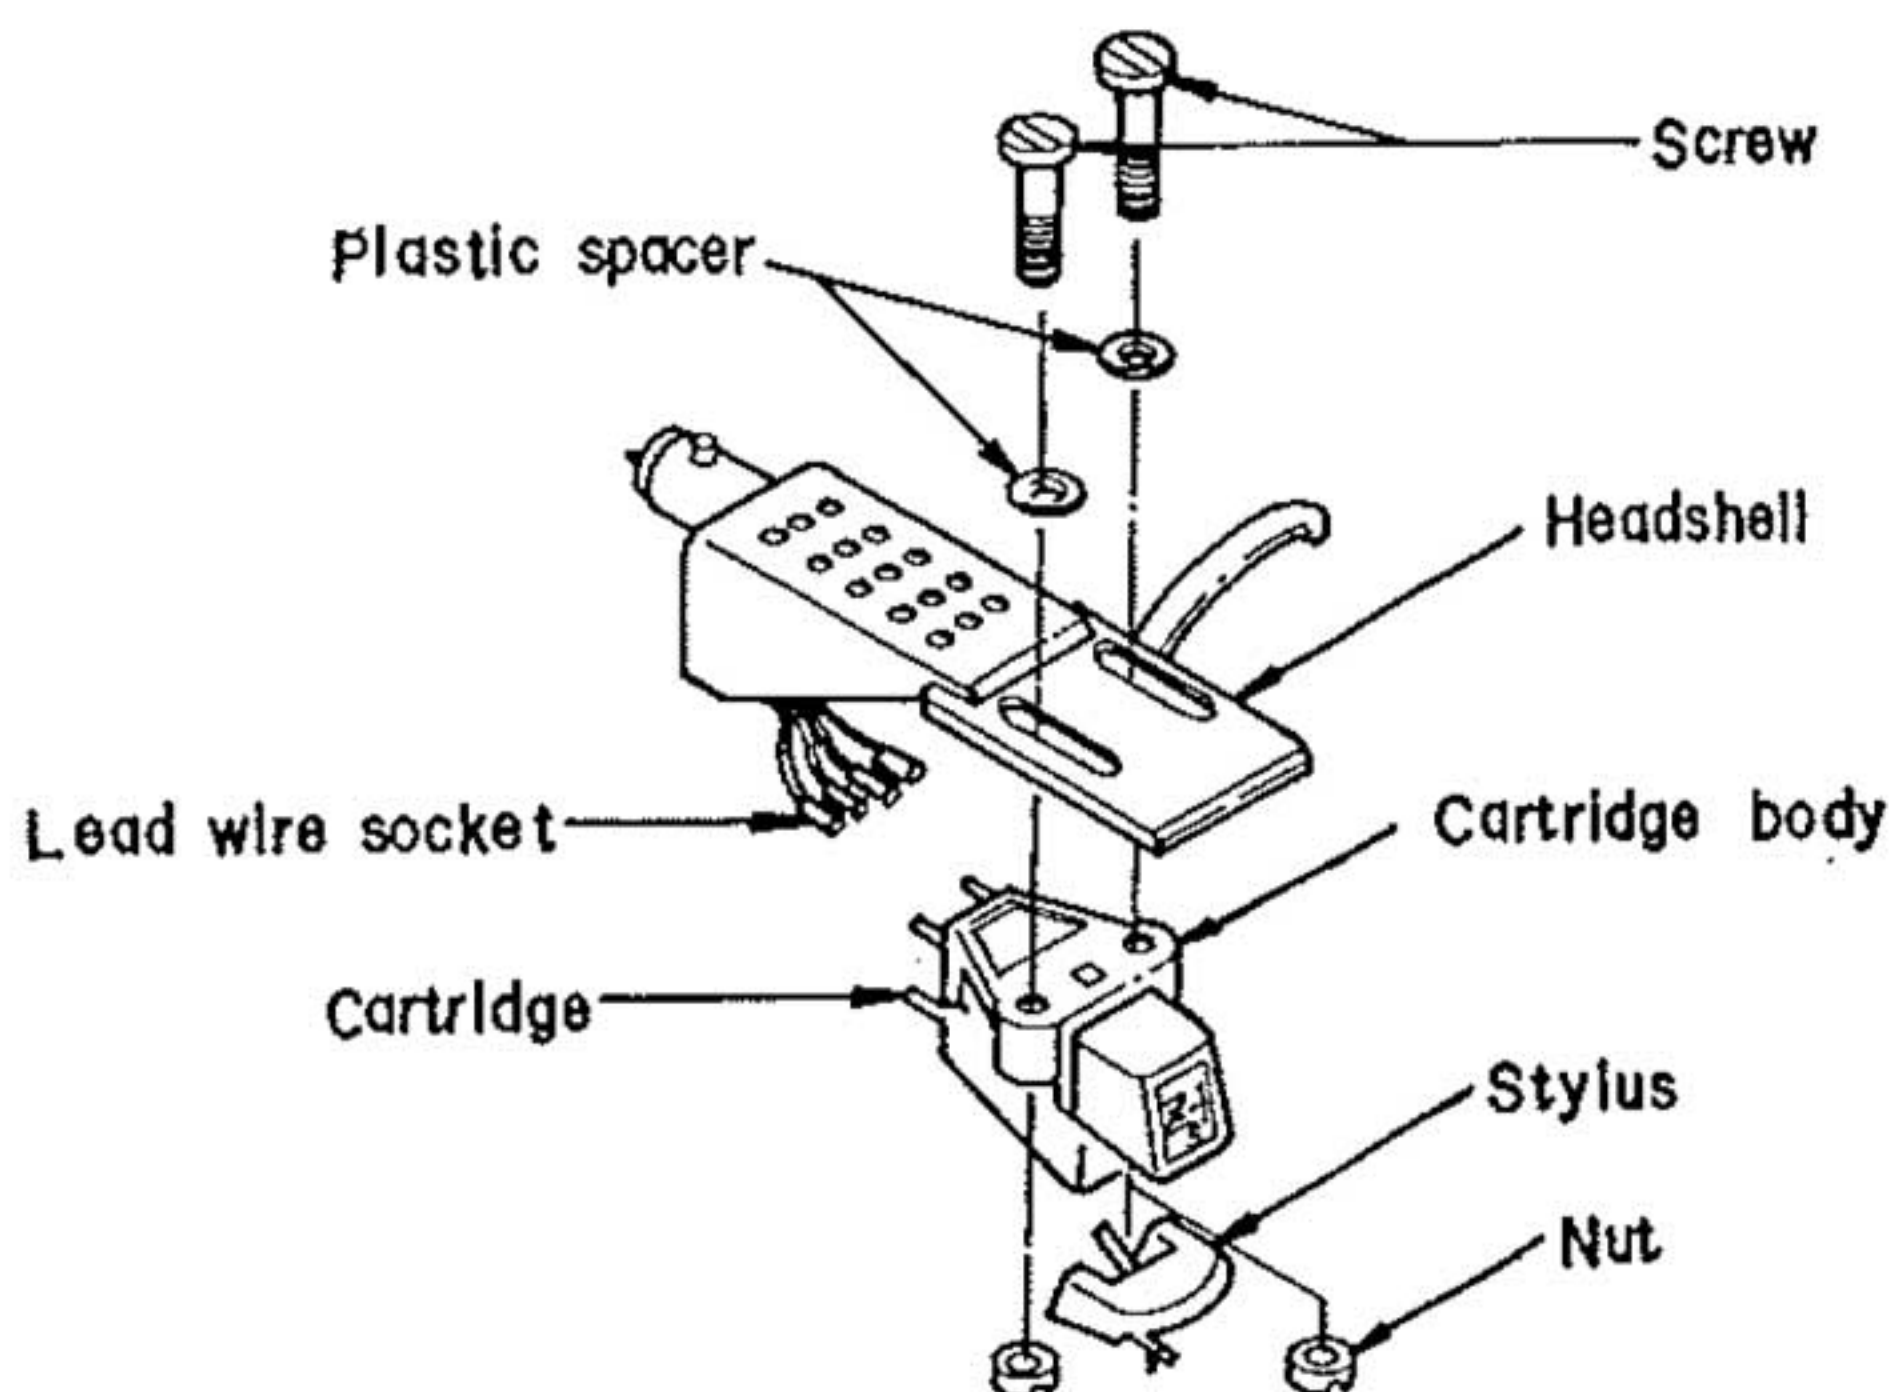

Fig.10
- **Mounting cartridge (Fig. 10)**